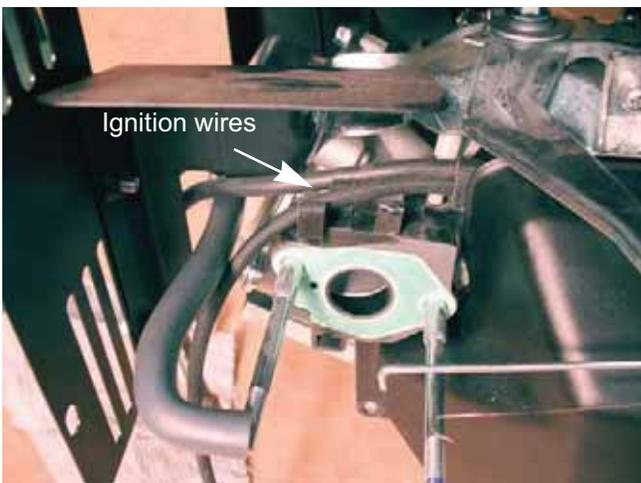

Figure 3.15
8. Unhook the ignition wires from the clip molded into the insulator plate. See Figure 3.15.